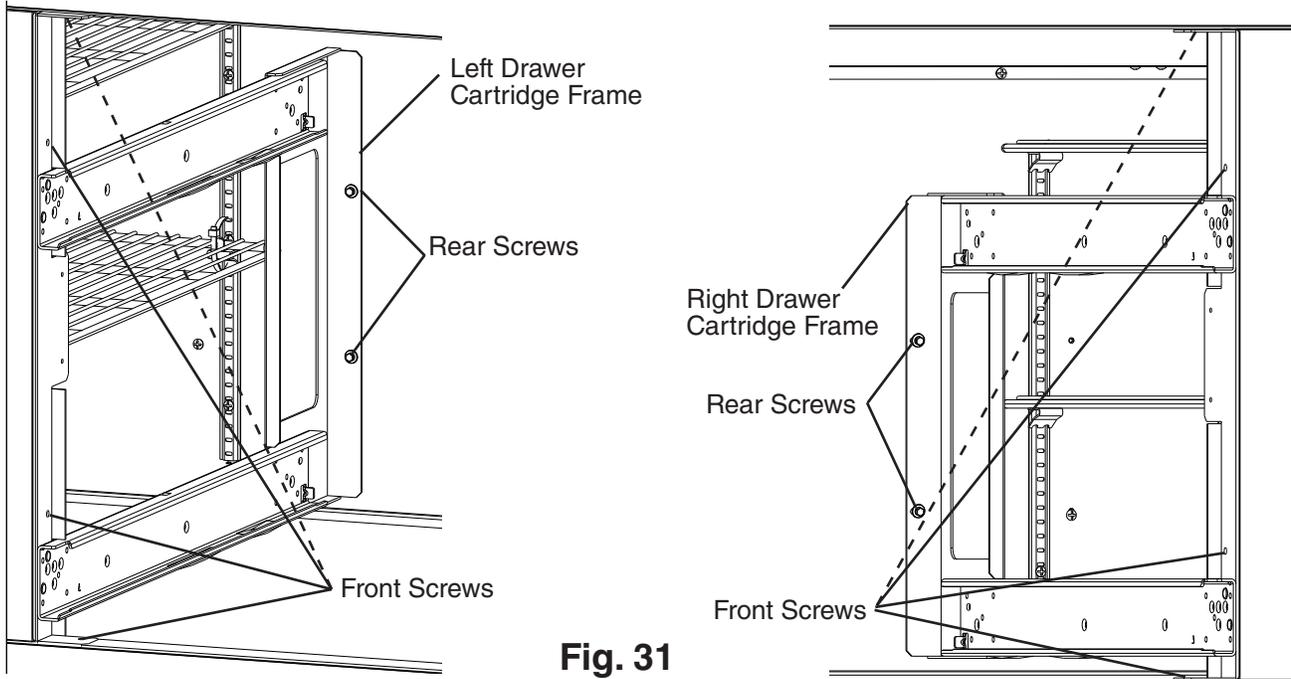

**Fig. 30**
- 19) Close the door and tighten the upper hinge bracket outer screw. See Fig. 30.